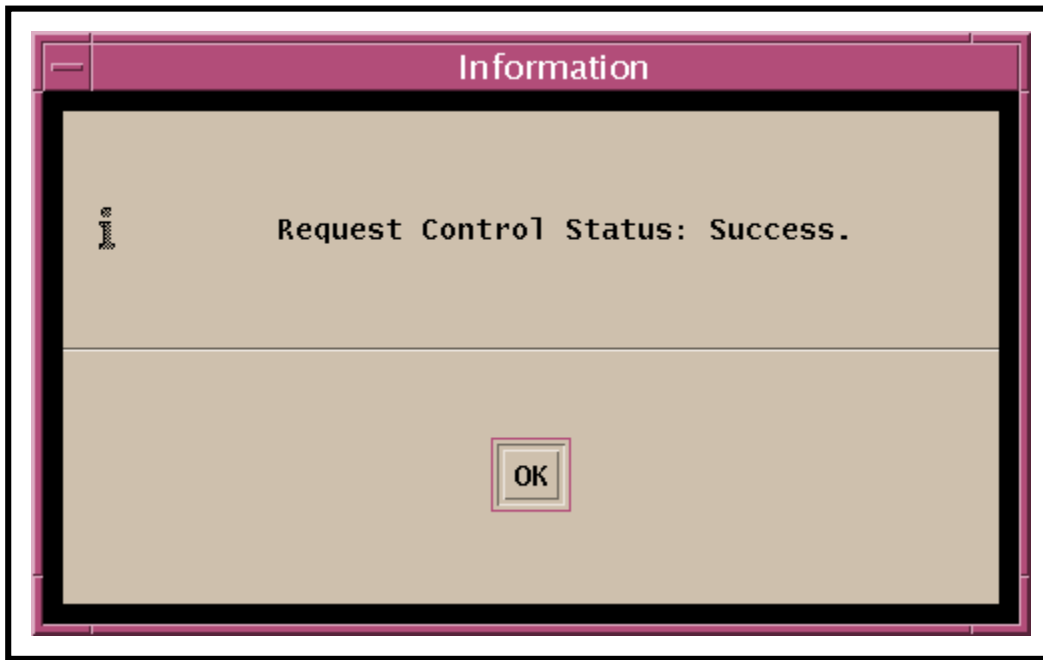

Figure 13. Request Control Status Information Dialogue Box
- A **Request Control Status Information Dialogue Box** (Figure 13) is displayed.
- The **Request Control Status Information Dialogue Box** (Figure 13) is dismissed.